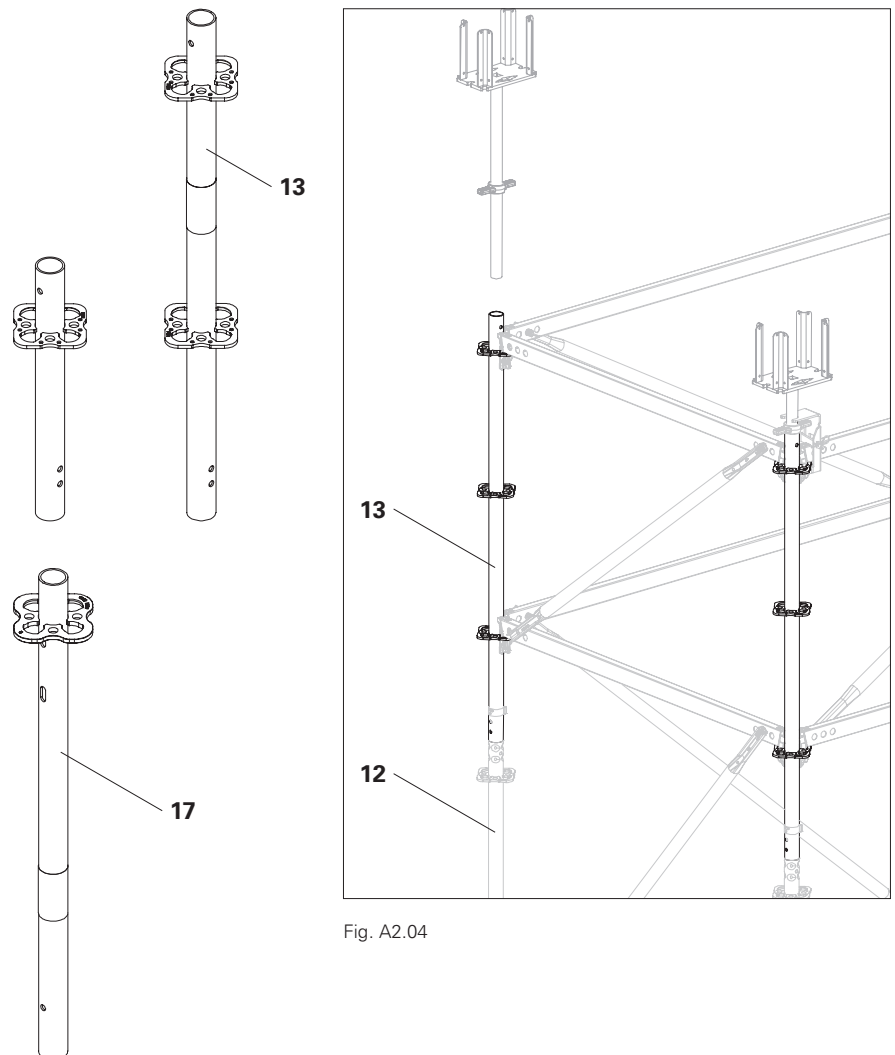

Fig. A2.04
2. Align the insert holes with each other. (Fig. A2.04)